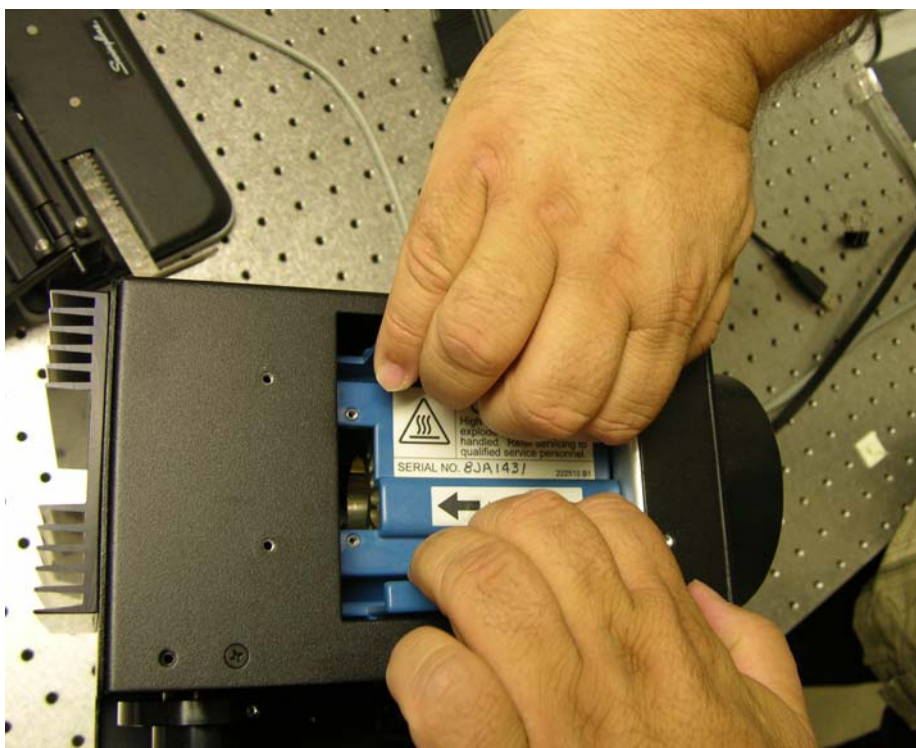

Figure 36 Lifting out the lamp
2. Place each hand on each side of the blue plastic flange and lift out the lamp in a vertical motion (Figure 36). You must use both hands to remove the lamp successfully. Apply equal pressure on each side of the lamp and gently lift.